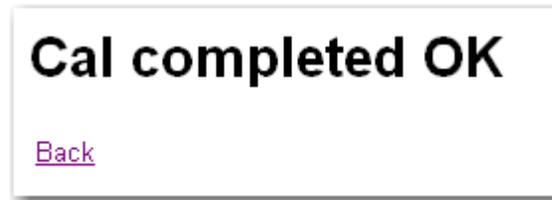

FIG. 320 CAL COMPLETED OK
- If the Calibration was successful a Cal completed OK appears. (See Fig. 320)